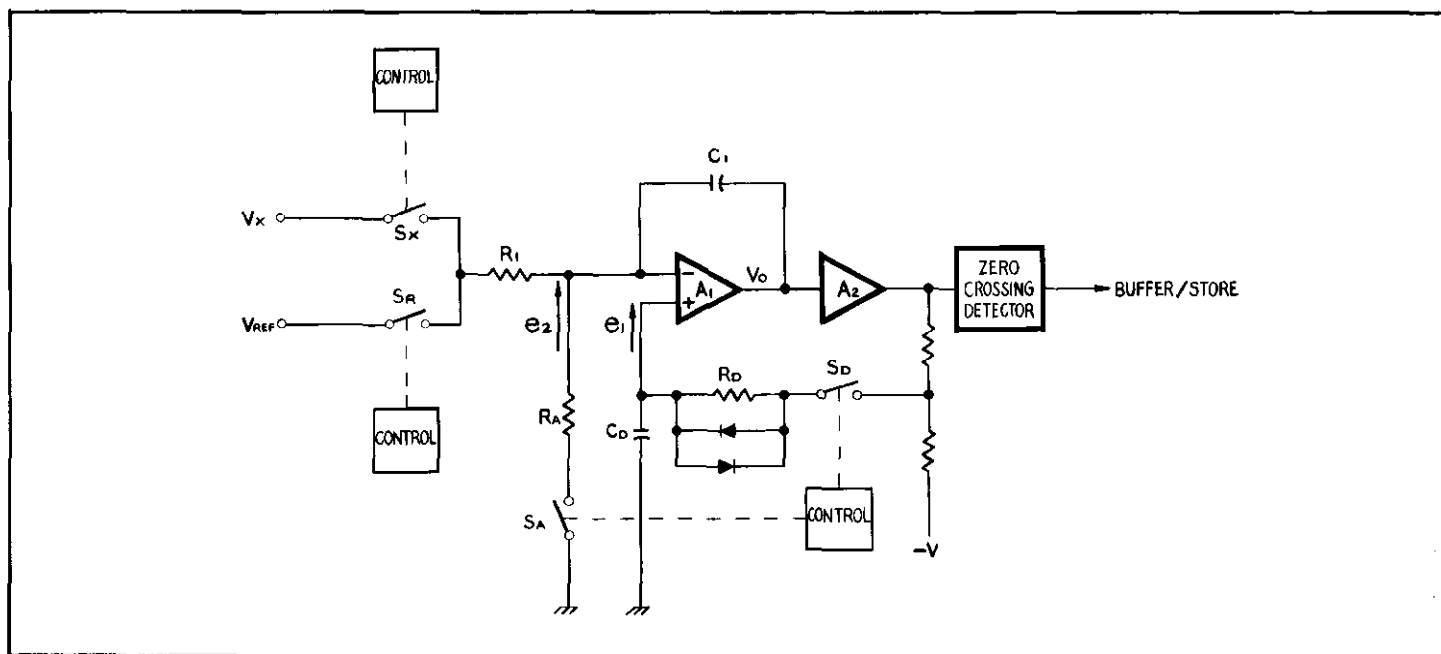

FIGURE 19. Integrator Block Diagram.
d). Integrator. The operation of the Integrator is controlled by switches identified as S_A , S_D , S_X , and S_R as shown in Figure 19. Switch S_X (Sampling Switch) is composed of Q302. Switch S_D (Zeroing Switch) is composed of transistors Q305 and Q315. Transistors Q306, Q307 are control circuits arranged to control the proper FET switches depending on the event commands. The integrator amplifier consists of two stages: gain of 20 and gain of 50. They are QA302 and QA303. The integrator capacitor is C312 (.1 μ fd). Switches Q308 and Q310 control the discharge current period. The feedback rezeroing of the Integrator circuit is performed by FET Q315 (Switch S_D). Resistor R351 and capacitor C317 provide filtering in the feedback loop. Diodes D312 and D313 provide fast response for large input offsets (especially due to input overloads).